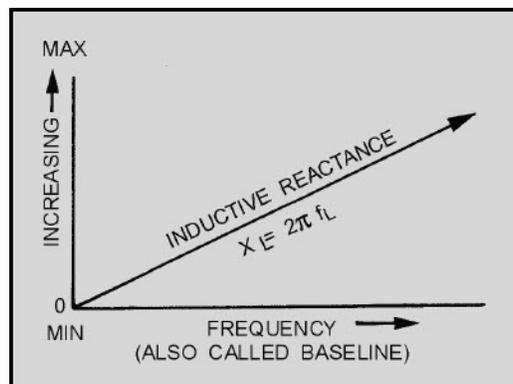
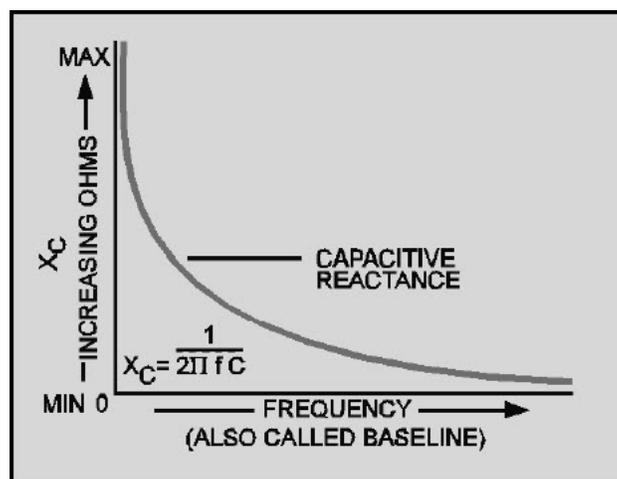
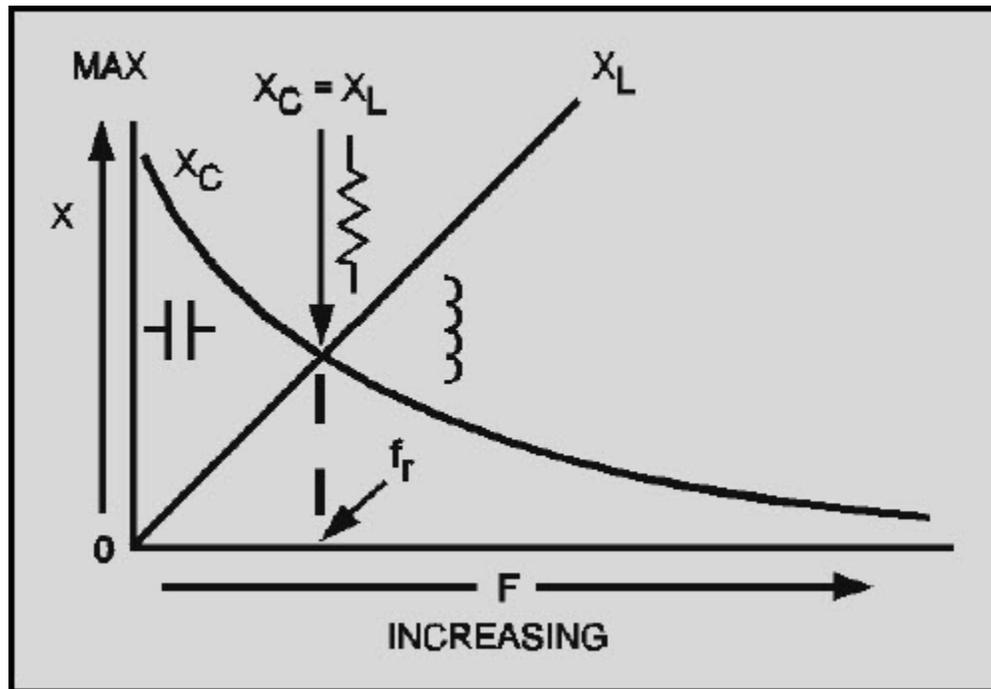

Figure 1-2 Effect of frequency on inductive reactance
Figure 1-3 Effect of frequency on capacitive reactance
Figure 1-5 Relationship between X_L and X_C as frequency increases
As shown in the equation, any increase in frequency, or "f," will cause a corresponding increase of inductive reactance, or " X_L ." Therefore, the **INDUCTIVE REACTANCE VARIES DIRECTLY WITH THE FREQUENCY**. As you can see, the higher the frequency, the greater the inductive reactance; the lower the frequency, the less the inductive reactance for a given inductor. This relationship is illustrated in figure 1-2. Increasing values of X_L are plotted in terms of increasing frequency. Starting at the lower left corner with zero frequency, the inductive reactance is zero. As the frequency is increased (reading to the right), the inductive reactance is shown to increase in direct proportion.
As shown in figure 1-3, the effect of capacitance is opposite to that of inductance. Remember, capacitance causes the current to lead the voltage by 90 degrees, while inductance causes the current to lag the voltage by 90 degrees.
A.c. circuits that contain both an inductor and a capacitor have interesting characteristics because of the opposing effects of L and C. X_L and X_C may be treated as reactors which are 180 degrees out of phase. As shown in figure 1-2, the vector for X_L should be plotted above the baseline; vector for X_C , figure 1-3, should be plotted below the baseline. In a series circuit, the effective reactance, or what is termed the RESULTANT REACTANCE, is the difference between the individual reactances. As an equation, the resultant reactance is:
The universal reactance curves of figures 1-2 and 1-3 are joined in figure 1-5 to show the relative values of X_L and X_C at resonance, below resonance, and above resonance.